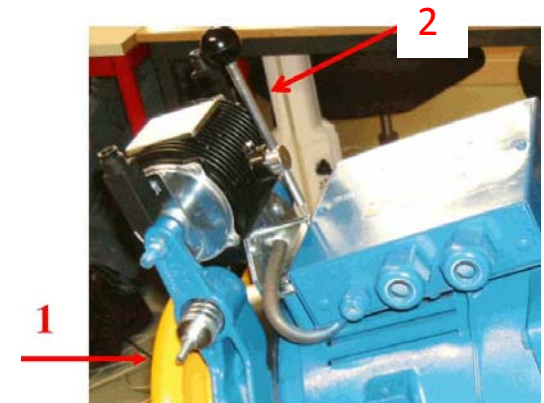
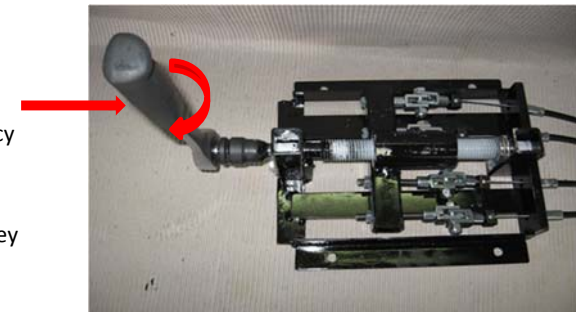

Fig. 2
Fig. 3
- 5) Refer to figure 2 and 3: screw the wrench to tighten the 4 Bowden cables connected to the Mayr brakes and open the 4 emergency calipers mechanically and simultaneously.
- 5) Refer to figure 2: screw the four threaded knobs (indicated by red arrow) to open the emergency brakes mechanically.
- 12- At machine start, unscrew the wrench (fig. 2) till the Bowden cables (fig.3) are untightened and the 4 Mayr calipers are completely closed.